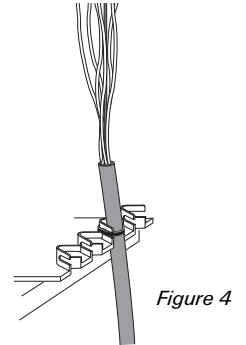

Figure 4
6. Attach cable end to the FOSC Work Stand using a tie wrap as shown. (Figure 4)
5. Attach the cable to the FOSC Work Stand with a tie wrap. (See Figure 4)
5. Attach the cable to the FOOSC Work Stand with a tie wrap. (See Figure 4)